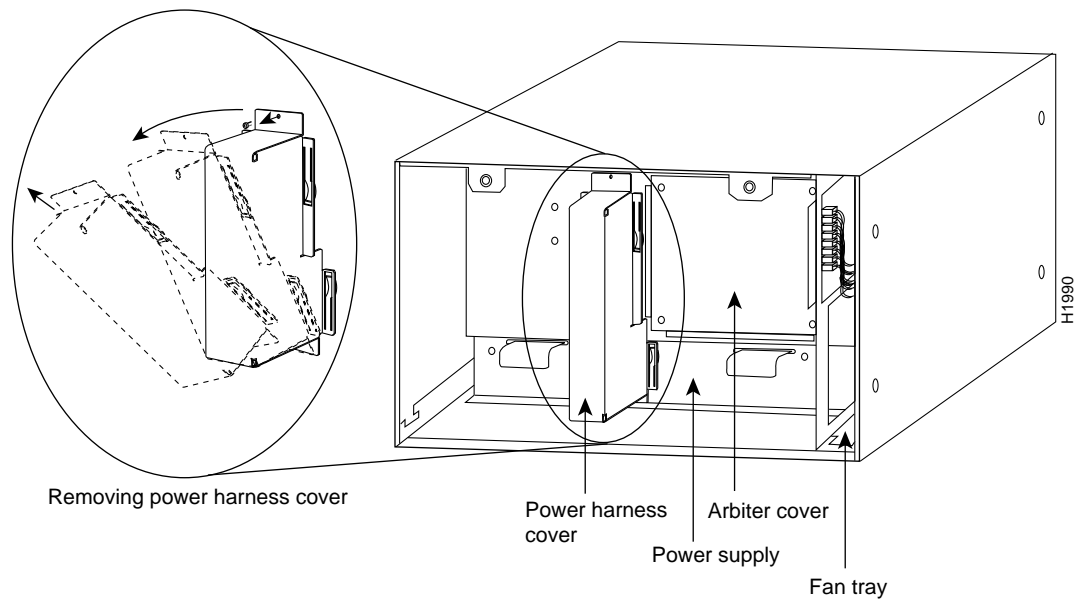

Figure 10 Removing the Power Harness Cover
- Step 2** Use a No. 1 Phillips screwdriver to remove the M-3 screw that secures the harness cover to the backplane. (See Figure 10.)
- Step 2** Hold the power harness cover with one hand, with the tab on the bottom and the open side facing away from you. Tilt the top of the panel back slightly (toward you). (See Figure 10.)
- Step 3** Insert the tab on the bottom of the cover into the slot in the chassis floor. (See Figure 10.)